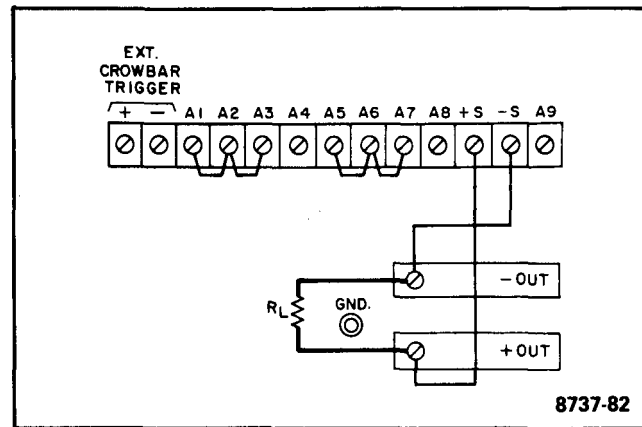

Figure 3-2. Normal Strapping Pattern
a. Turn CURRENT controls (7) and OVERVOLTAGE ADJUST potentiometer (5) fully clockwise and check that rear panel straps are connected as shown in Figure 3-2, but do not connect load  $R_L$ .
c. Set LINE switch or circuit breaker (1) ON and observe that pilot lamp (2) lights.
d. Adjust COARSE and FINE VOLTAGE controls (3) for desired indication on voltmeter (4).
e. Ensure that overvoltage crowbar circuit is operational by slowly turning OVERVOLTAGE ADJUST control (5) counterclockwise with a screwdriver until OVERVOLTAGE lamp (6) lights and voltmeter indication drops to zero volts.
g. To check the constant current circuit, first turn off the supply, connect a short across the output bus bars (see Figure 3-2), and turn it back on.
3-7 This power supply was shipped with the proper rear panel strapping connections made for constant-voltage/constant-current operation with local sensing and local programming. This strapping pattern is illustrated in Figure 3-2. In the constant-voltage mode, the power supply acts to maintain its output voltage constant in spite of changes in load, line, temperature, etc. Thus, for a change in load resistance, the output voltage of this mode remains constant while the output current changes by whatever amount necessary to accomplish this. In the constant-current mode, the power supply acts to maintain its output current constant in spite of changes in load, line, temperature, etc. Thus, for a change in load resistance, the output current remains constant while the output voltage changes by whatever amount necessary to accomplish this. By means of the front panel voltage and current controls, the operator selects either a constant-voltage or a constant-current output. Whether the supply functions in the constant-voltage or the constant-current mode depends on the settings of the voltage and current controls and on the resistance of the output load. For values of load resistance greater than a critical crossover value equal to the voltage setting divided by the current setting, the supply operates in the constant-voltage mode. With a load resistance smaller than this critical value, it operates in the constant-current mode. The transition occurs automatically; no switches need to be operated or connections changed.
3-28 Because of the unavoidable voltage drop developed in the load leads, the normal strapping pattern shown in Figure 3-2 will not provide the best possible voltage regulation at the load. If, for example, one were to use 4-gauge wire to connect a load that
*The +S jumper is the one that links the +S terminal to the +OUT terminal when the supply's terminals are strapped for normal operation as shown in Figure 3-2. The -S jumper is the one that links the -S terminal to the -OUT terminal.*